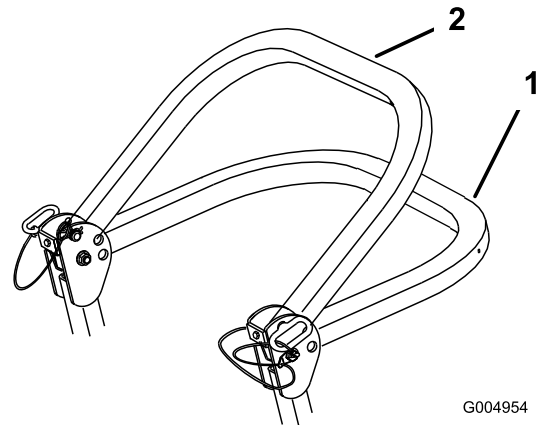

Figure 6
2. Lower the roll bar to the down position (Figure 6).
**Note:** There are 2 down positions; refer to Figure 6.